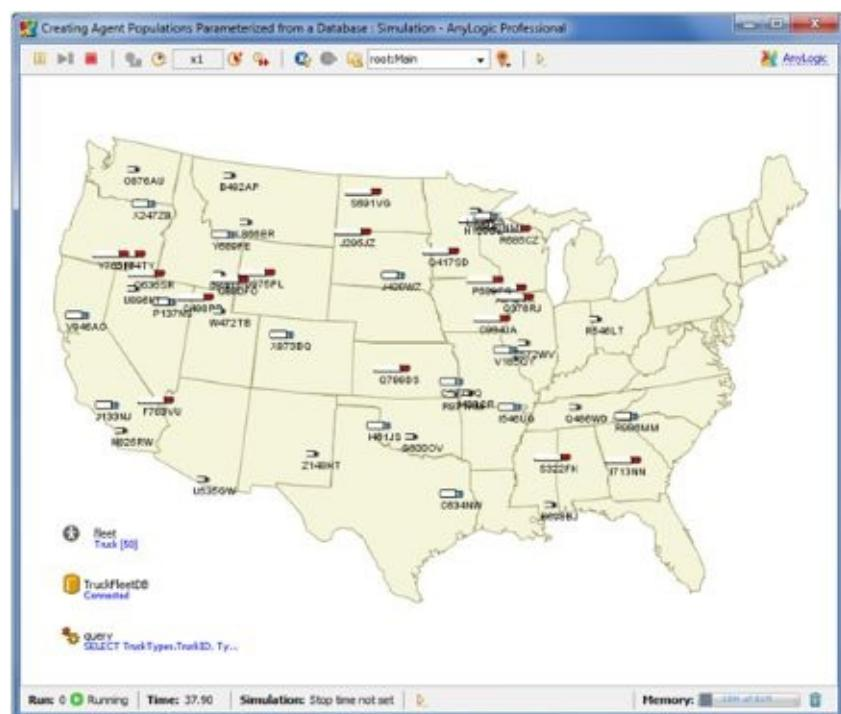

Figure 11.23 The agents of class Truck created and parameterized from the database Truck Fleet
1. (Assuming you have the database ready) Create a new model. Drag the **USA Map** picture from the **Pictures** palette, and enlarge it so that it fits nicely into the 800x600 default window (see Figure 11.23).